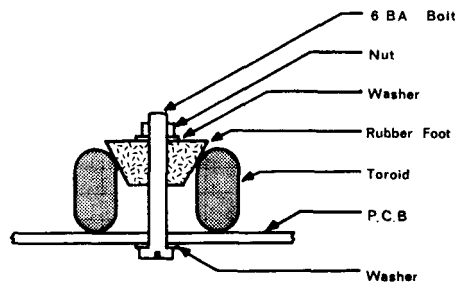

Fig 9 Toroid Mounting
1. L1 and L2 - for pot cores such as the 3AF types, secure to the board using an epoxy resin; e.g. Araldite. For "open" toroids, some form of resilient mounting is required - a small rubber foot or grommet can achieve this as shown in Fig 9.